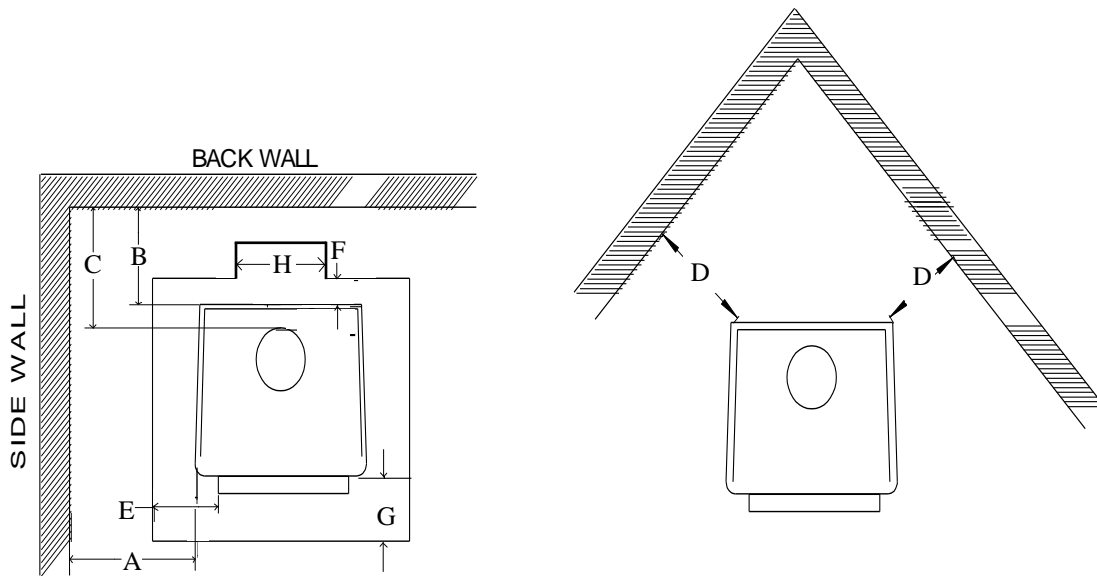

Figure 9
**NOTE:** Floor protector must be under horizontal pipe exit (See Figure 9, Page 20).